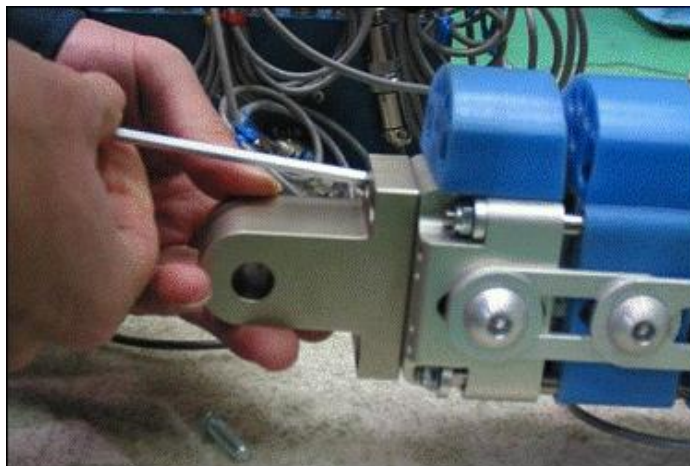

Figure 92 . Attaching Pendulum Rig Pivot hinge
Step 8: Remove the black protective cover (Part Nr 133 – 5516) from the tibia bottom and attach the Pivot Hinge (Part Nr 133-8418) as shown in Figure 92 using four M6 x 18 long screws.